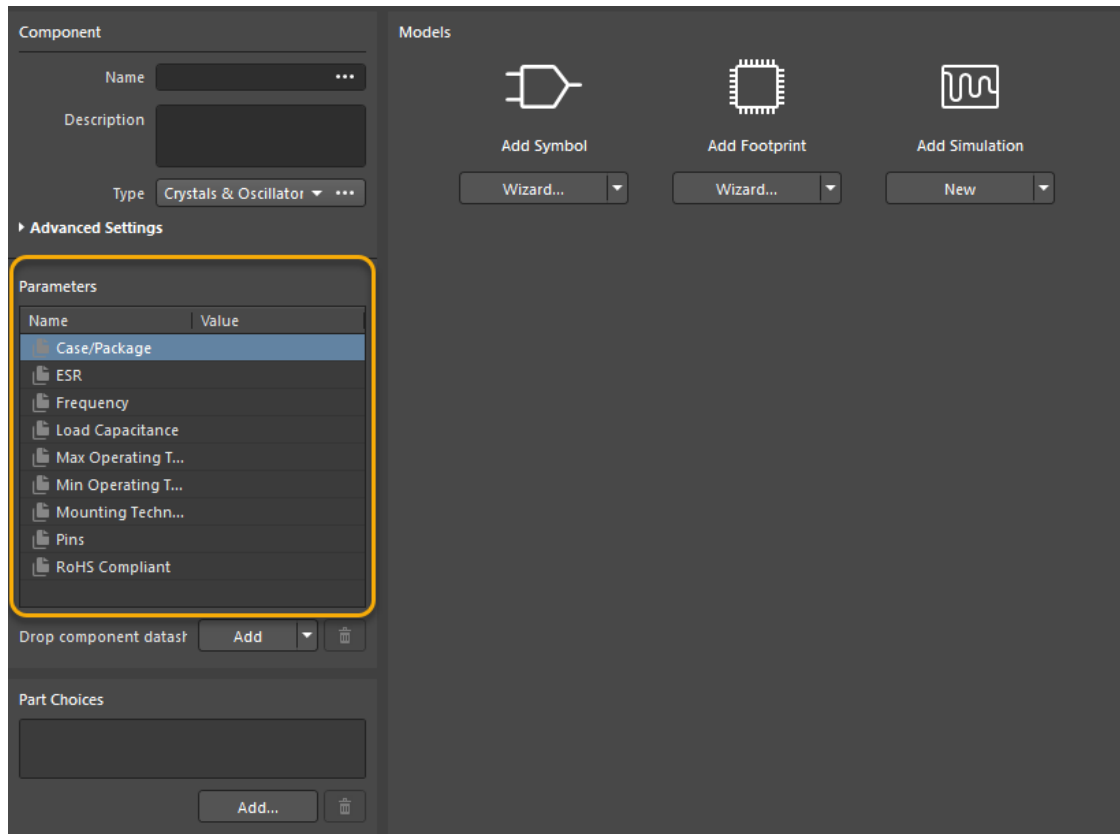

Figure 4. Component Editor
5. After clicking **OK**, the *Component Editor* will open, as mentioned earlier. If a component template is linked to the component type, the information will be shown in the *Parameters* section; also, if there are predefined symbols and even footprints, these can also be linked to a template. However, in this exercise, we will create a new schematic symbol and a new PCB footprint. See Figure 4.